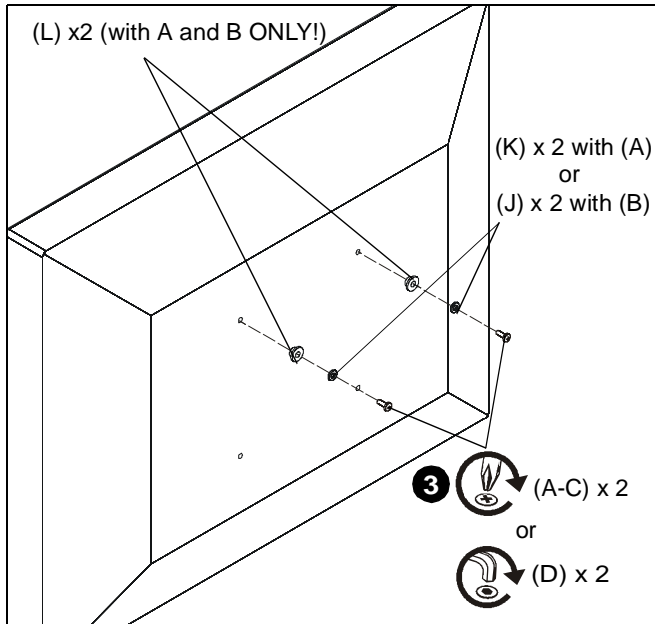

Figure 19
3. Install two selected screws (A-D) into upper two holes on back of display. (See Figure 19)
IMPORTANT ! : If using M4 or M5 screws (A or B), washer hardware (J, K and L) must be used to ensure tight fit into the faceplate holes! For M4 screws (A), use M4 washer (K) and shoulder washer (L). For M5 screws (B), use M5 washer (J) and shoulder washer (L). (See Figure 19)